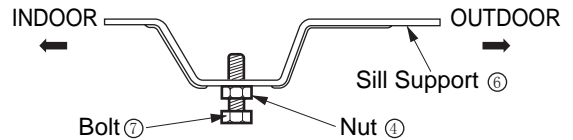

Fig. 3
3. Loosely assemble the Sill Support[®] using the parts . (Fig. 3)